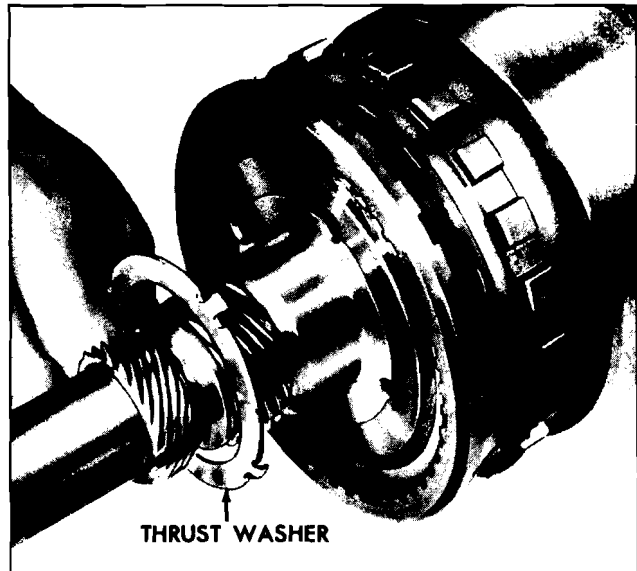

Fig. 7E-148 Installing Case to Output Shaft Thrust Washer
3. Install new cup plug, using a 3/8" dia. rod, and drive into transmission case until parking pawl shaft bottoms on case rib (Fig. 7E-151).